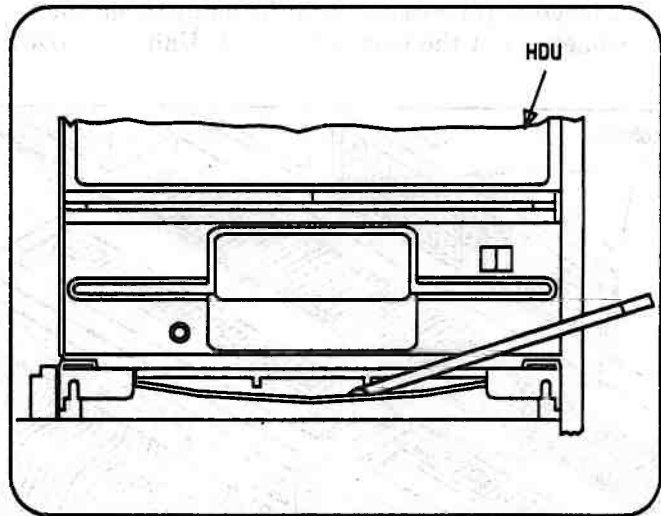

Figure 5-67. Unlocking the Drive Assembly
- Using a screwdriver, push down the metal bar below the drive assembly and slide the assembly forward to gain access to the signal and power cables (Figure 5-67).